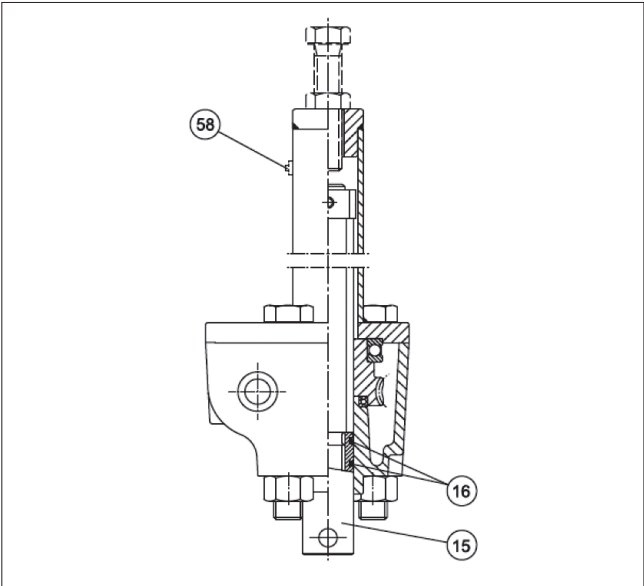

Fig. 3 Manual override
There is some air bleed trough the spindle thread and the relief valve (58) when the sealing slide (15) with the Orings (16) is positioned inside the cylinder. I.e. when the valve has been manually operated to open position during compressed air loss and then the air pressure is restored. To stop the leakage operate the manual override to closed position. See Fig. 3